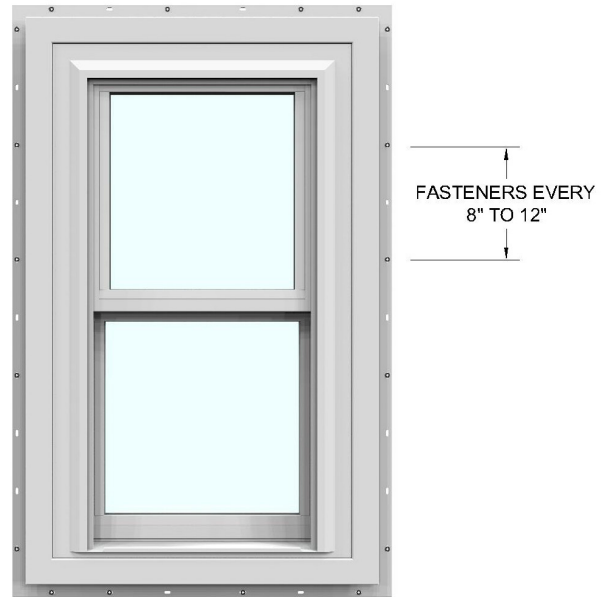

Fig. 3
- 3) Fasten the J-channel pieces to the wall around the window/door every 8" to 12" along the nail hem making sure the profiles are securely fastened using galvanized, stainless, or corrosion resistant nails or screws (Fig. 3).